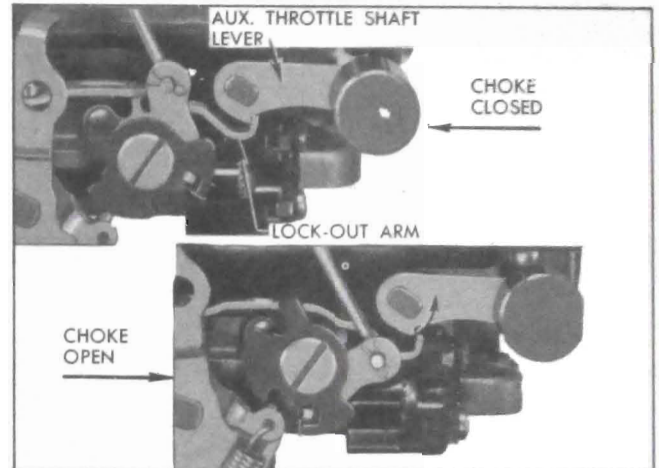

Figure 3-55—Lock-Out Arm Adjustment
40. With choke valve closed, the end of hook on lock-out arm should contact the auxiliary throttle shaft lever, making maximum engagement with locking step on lever. As choke valve is opened, the hooked end of lock-out arm should drop clear of locking step a few degrees before choke valve reaches wide open position. See figure 3-55. Bend end of lock-out arm up or down as required to meet these conditions. *Check for free operation of choke valve and fast idle cam.*